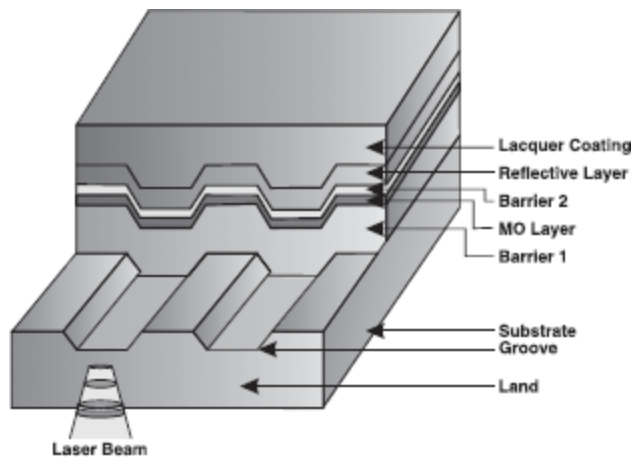

Figure 3.22 Magneto-Optical Disk Structure
The magneto-optical (MO) systems include basic principles of both magnetic and optical storage systems. This system writes magnetically (with thermal assist) and reads optically. Magnetic optical disk is a plastic or a glass disk coated with a compound (often a ternary alloy of terbium ferric cobalt, or TbFeCo) with special properties (see Figure 3.22). Since such materials are easily oxidized, dielectric barrier layers are used to protect the MO layer from oxidation. At the same time, the barriers together with the reflector coating act as an optical signal enhancement. MO disks function along opto-thermic magnetic principles. The thin film structure that gives the format its unlimited rewritability is based on a MO alloy layer enveloped by a barrier layer on each side.